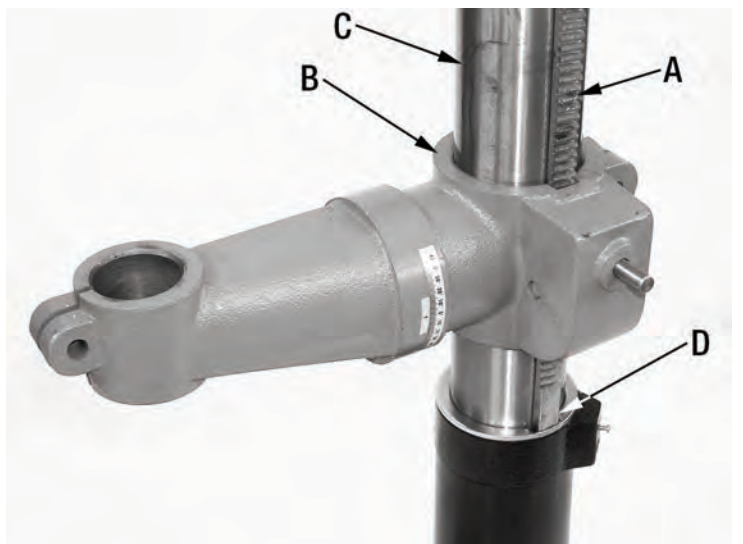

FIGURE 8
- 6) Slide rack (A) Fig.8 down through the large round opening in the table support (B). Engage rack in gear mechanism found inside the opening of the table support.
- 7) While holding the rack (A) Fig.8 and table support (B) in an engaged position, slide both down over the column (C). Slide rack down the column until the rack is positioned against the lower column support (D).